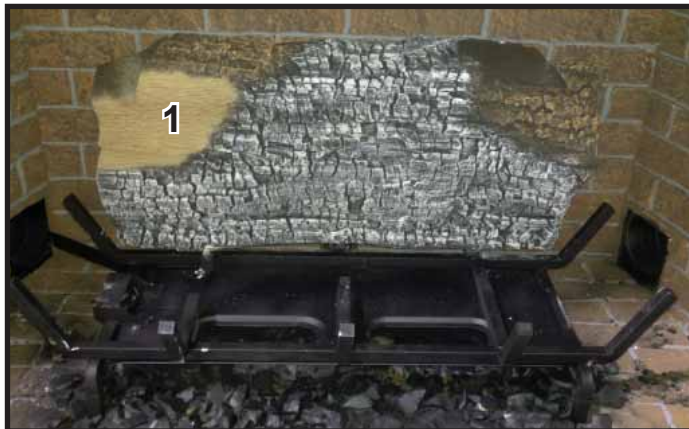

Figure 3.
**Log #1 (2282-701):** Locate log placement notch on the bottom of log #1. See Figure 2. Mate outer notches on the bottom of Log #1 with the left and right grate tines. Slide Log #1 toward the rear of appliance until back side of Log #1 contacts the log placement tabs shown in Figure 1. See Figure 3.